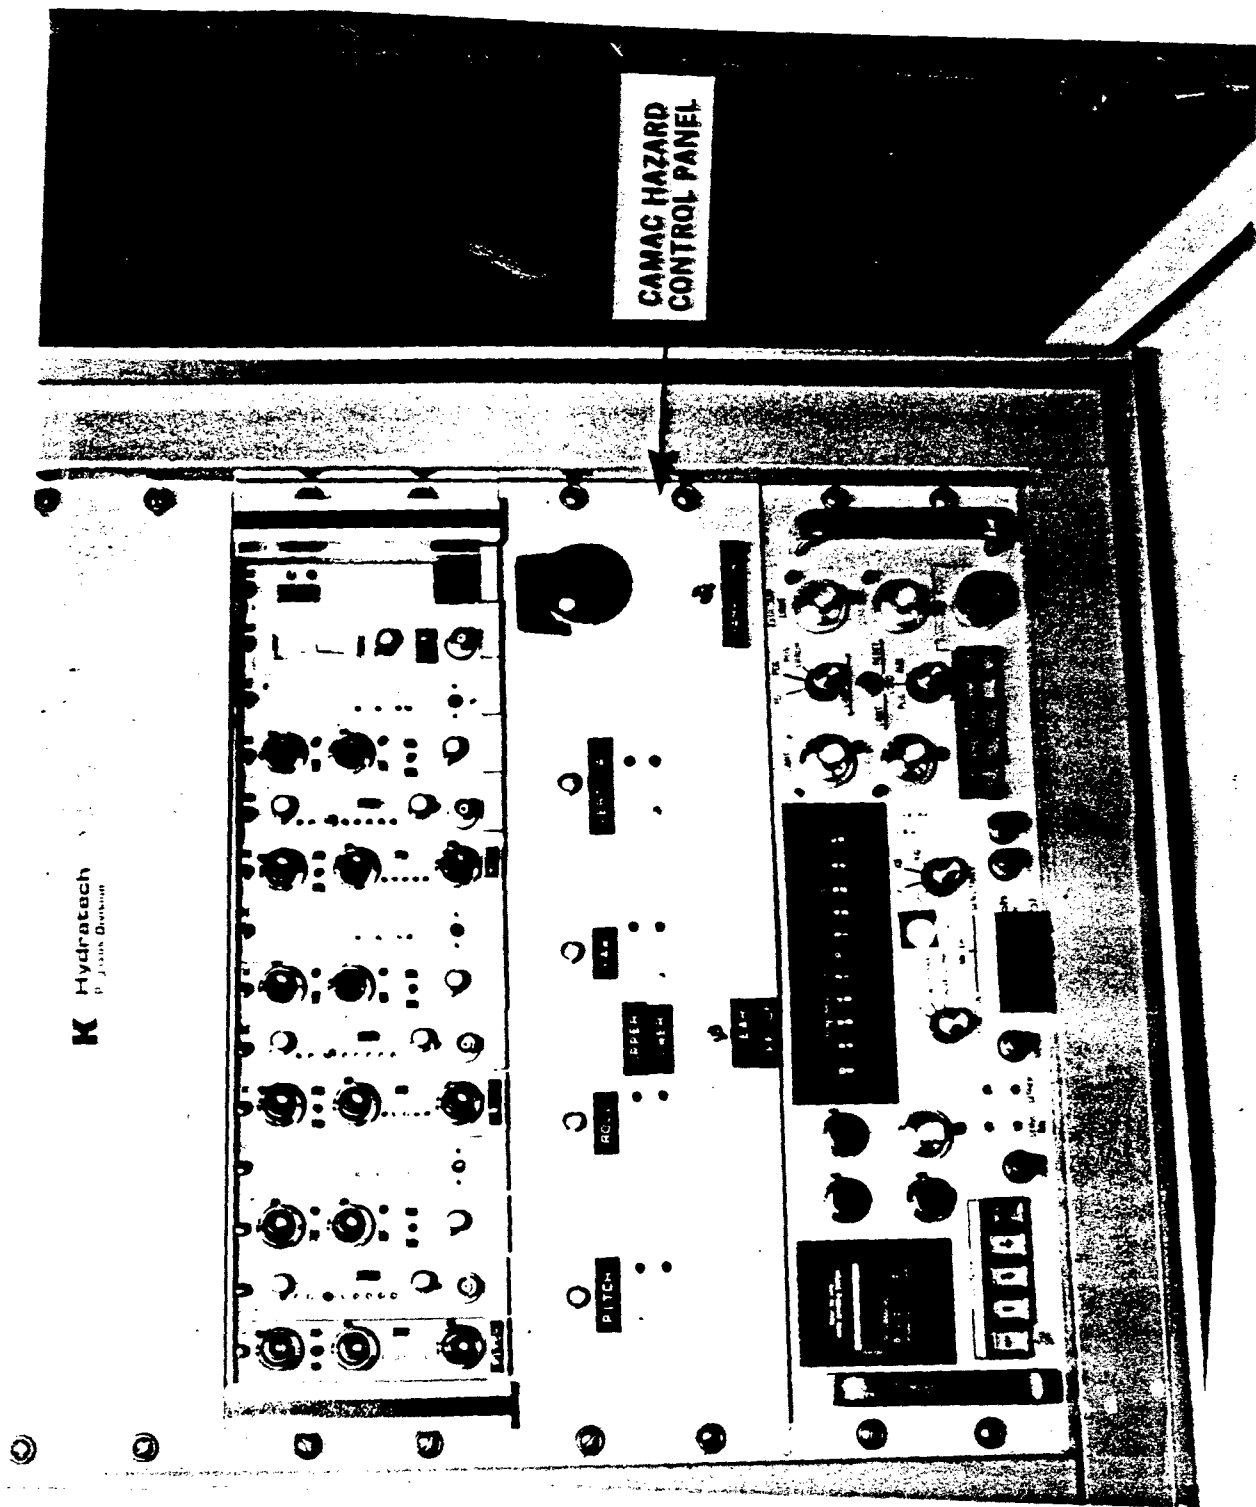

Figure 5-9. CAMAC Hazard Control Panel
5.2.3.1. Emergency shutdown "red" pushbutton switch (operator activated). Located on the CAMAC control panel (Fig. 5-9) is a "red" pushbutton switch which is controlled by the RMS operator. If he should see any uncommon happenings, he will press the pushbutton, which will lock the output signal from the CAMAC at its current value, thereby freezing the RMS at its present position. The operator then presses "cycle stop" and sets all the span pots to 0.0.